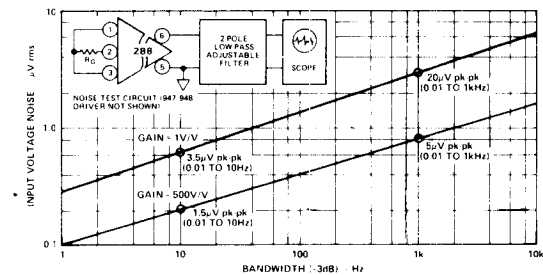

Figure 16. Input Voltage Noise vs. Bandwidth
**Input Voltage Noise:** Voltage noise, referred to input (RTI), is dependent on gain and bandwidth as illustrated in Figure 16. Rms voltage noise is shown in a bandwidth from 0.01Hz to the frequency shown on the horizontal axis. The noise in a bandwidth from 0.01Hz to 10Hz is  $1.5\mu\text{V}$  p-p at a gain of 500V/V. This value is derived by multiplying the rms value at  $f = 10\text{Hz}$  shown in Figure 16 ( $0.22\mu\text{V}$  rms) by 6.6.